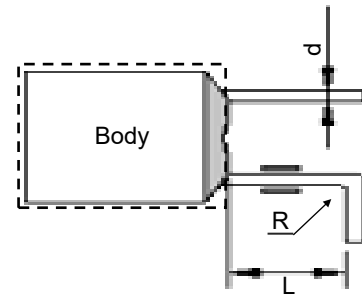

FIGURE T-2
2. When bending leads, please use pincher or similar tools to fix the product as shown in Figure T-2 to avoid damaging the product.
5. Bending radius $R \geq 15 d$, as shown in Figure T-2.